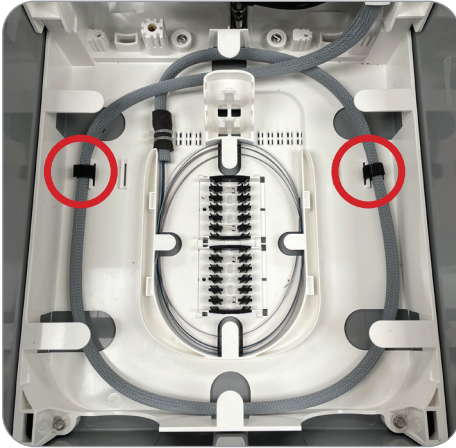

Figure 64
1. Route meshed fiber back into the enclosure and reattach Velcro (Figure 64).